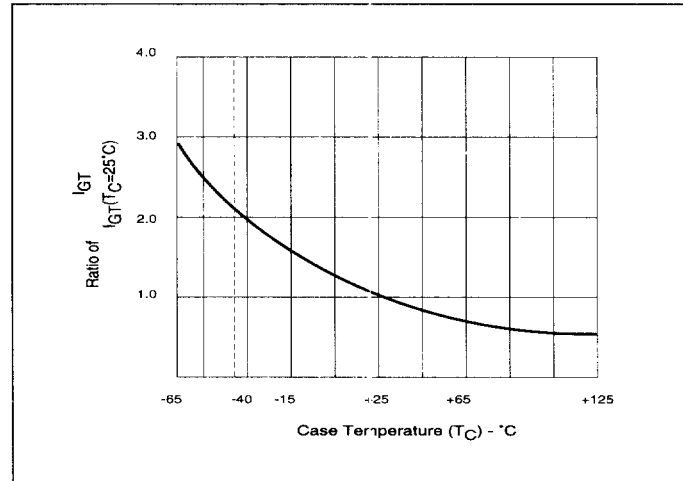

Figure 2.11 Normalized DC Gate Trigger Current for All Quadrants vs Case Temperature
- See Figure 2.11 for IGT vs TC.